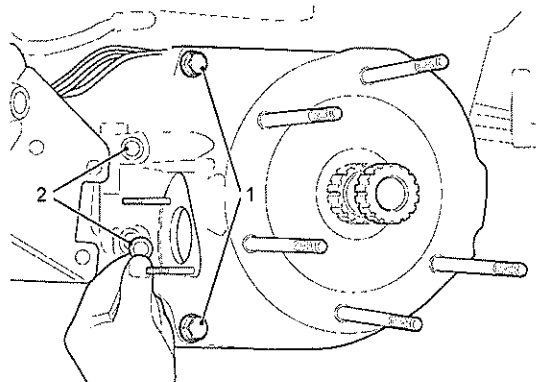

Fig 26 Hexagon screws, cap nuts and spacers
76 Smear threads of hexagon screws and cap nuts (see Fig 26 (1)) with Loctite anti-seize and fit and tighten to correct torque (Table 2, Ser 1).